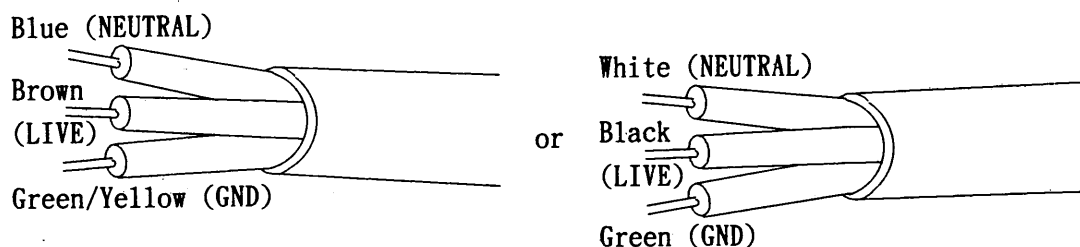

Fig. 1
- ☐ Power Cable: to 3-core cable (See Fig. 1 for the colors.)
To connect the AC plug to the AC power cord, connect the respective pins of the AC plug to the respective core-wires (LIVE, NEUTRAL, and GND) of the AC power cord by referring to the color codes shown in Fig. 1.